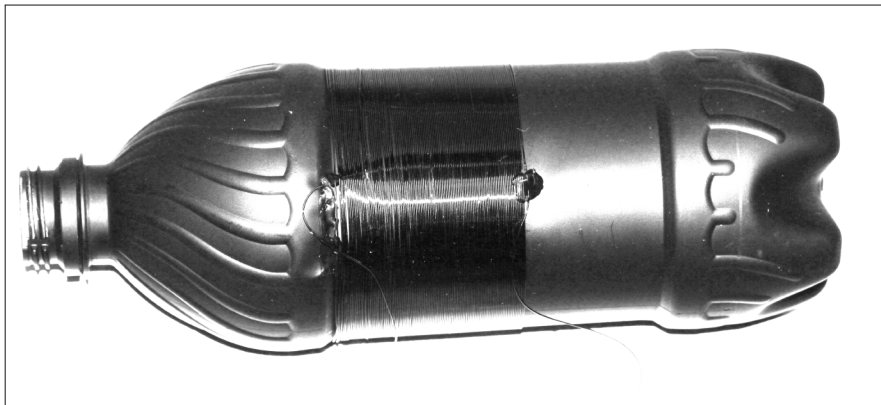

Figure 2-3:
- ◆ An empty 16 oz soda bottle. That's what I used for the radio built in this chapter. To make the coil look better, you may first want to spray-paint the bottle with black paint. See Figure 2-3. (Don't use metallic paint!)